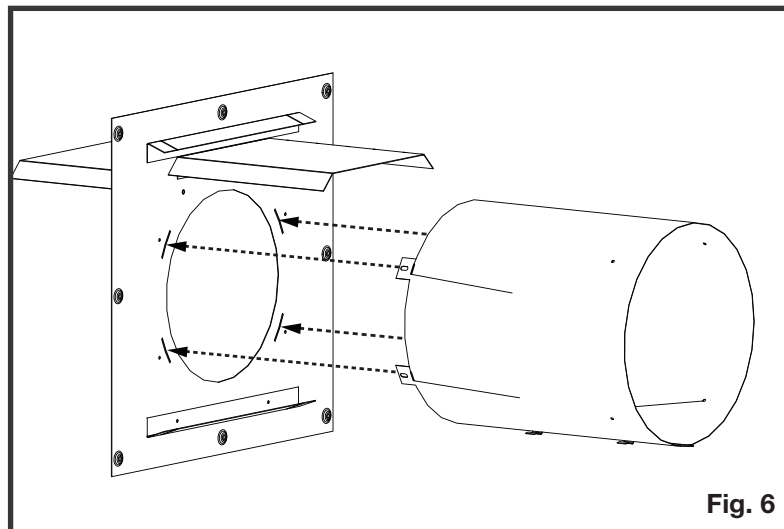

Fig. 6
6. Insert the vent sleeve tabs into the firestop spacer slots then bend the tabs over to secure to the firestop spacer along with 4 supplied fasteners (**Figure 6**).
6. Secure the vent shield with two fasteners (supplied) to the front upper frame **(Figure 6).**